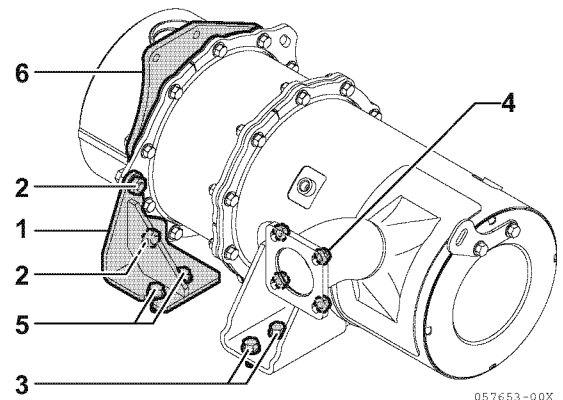

Figure 13-25
- First, slightly loosen the flange bolts (2 pcs.) (2 Figure 13-25) that attach the DPF stay (1 Figure 13-25) and the stiffener so that these have some play.
- Temporarily tighten the DPF assembly central stay M10 bolts (2 pcs.) (3 Figure 13-25).
- Seat the exhaust manifold flange (4 Figure 13-25) using M8 flange nuts (4 pcs.), and temporarily tighten.
- Fully tighten the central stay M10 bolts (3 Figure 13-25).
- Fully tighten the M10 flange bolts (2 pcs.) (5 Figure 13-25) of the DPF stay on the flywheel housing side.
- Fully tighten the DPF stay M8 flange bolts (2 pcs.) (2 Figure 13-25).